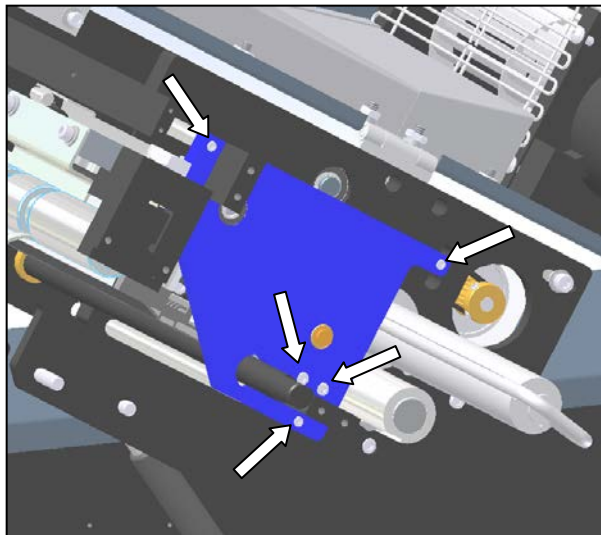

Figure 3-240. Screw Identification for Right Inner Plate.
7. Remove the five screws identified in Figure 3-240. This will allow the right inner plate to be removed.